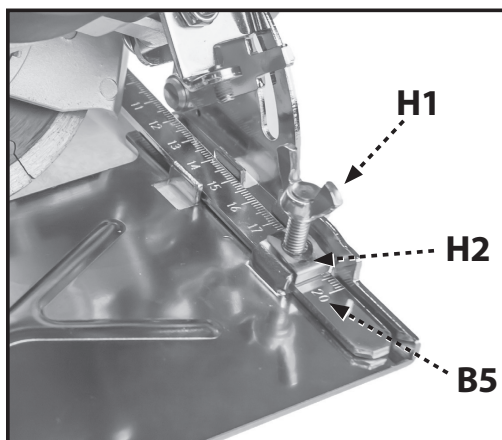

FIGURE 5
1. Install the wear-plate wedge clips (H2) as shown in Figure 5.